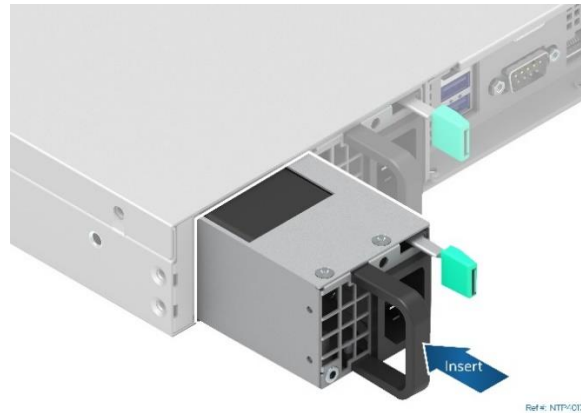

Figure 25. Power Supply Installation
3. Install power supply into the system (see Figure 25)